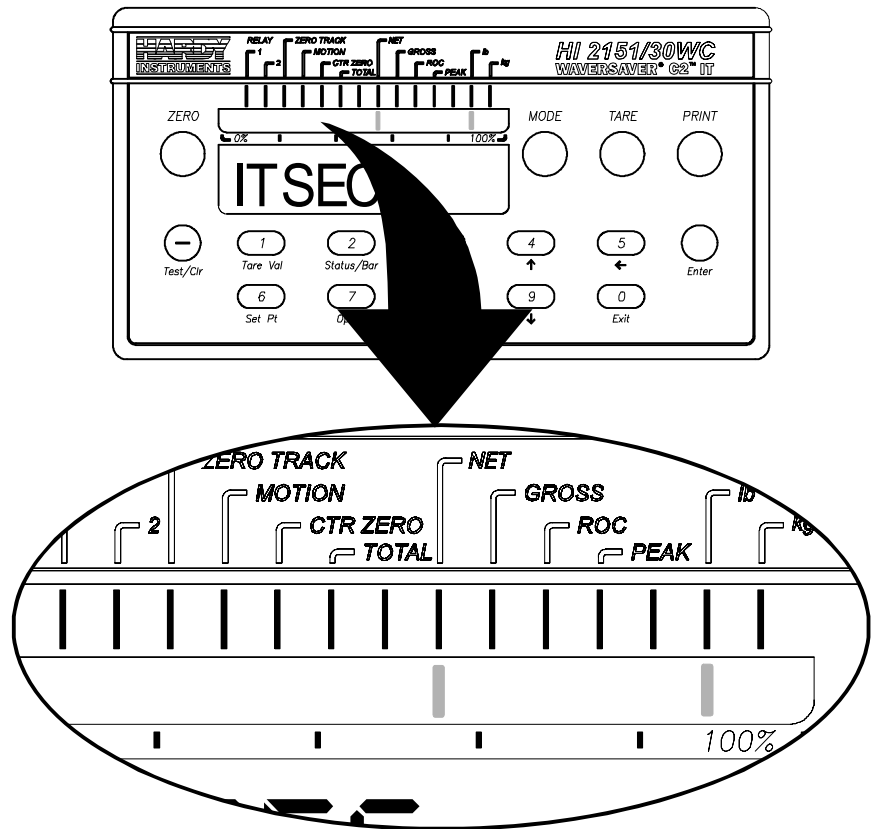

FIG. 6-5 FRONT PANEL STATUS LEDS DISPLAYED
- There are 30 discrete LEDs above the fourteen segment display, that function as status indicators and a bar-graph display. (See Fig. 6-5)